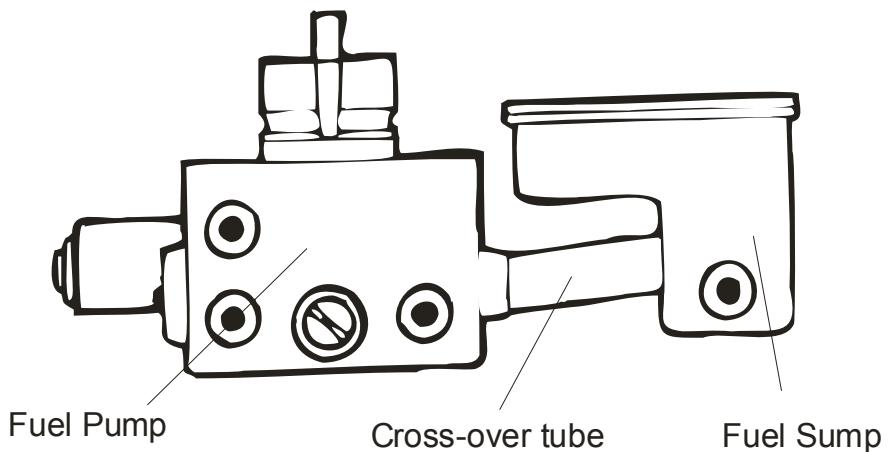

Figure 5-13 Fuel Pump/Fuel Sump Assembly
f. Step 6. Remove the four screws that hold the fuel sump to the lower fan housing using a flat tip screwdriver and slide the sump horizontally away from the pump to disengage the fuel cross-over tube from the sump pump (figure 5-13). Remove the sump.